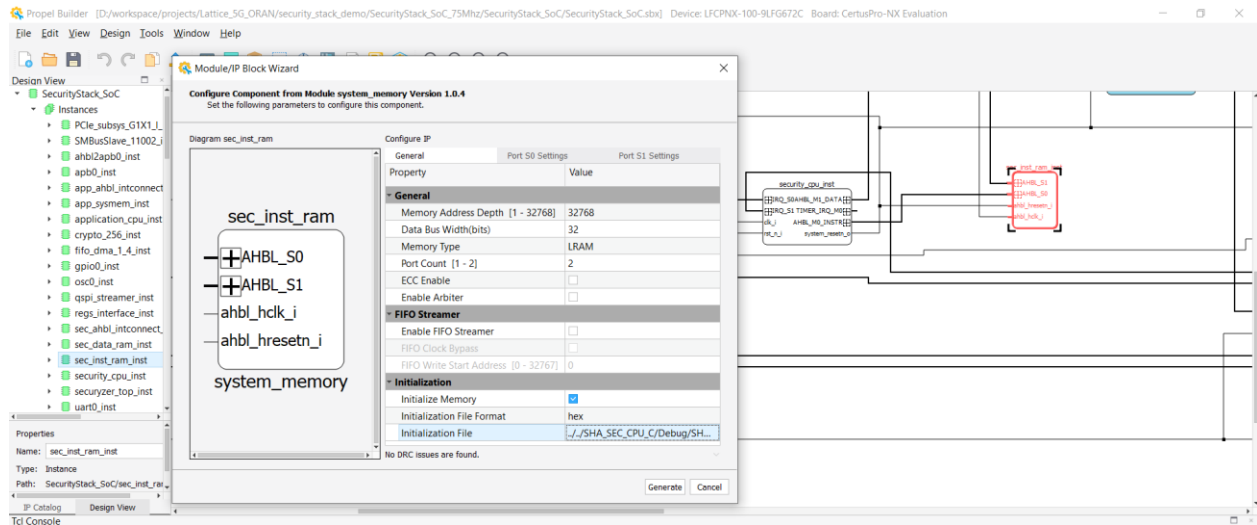

Figure A.14. Loading the Security CPU Firmware
- Load the Security CPU firmware in the Security CPU instruction RAM (module instantiation name=sec_inst_ram) as shown in Figure A.14.
- Click **Generate** and then **Finish** as shown in Figure A.14.